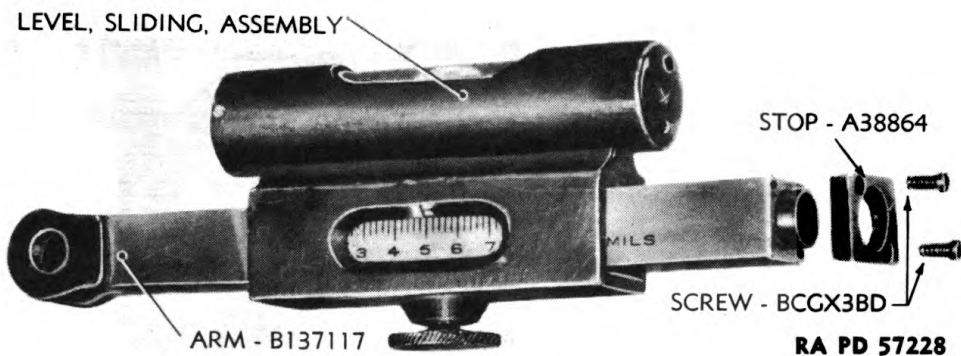

Figure 16—Gunner's Quadrant M1918—Sliding Level Stop Removed
c. Remove Sliding Level Assembly (figs. 16 and 17).
(1) Remove two screws securing sliding level stop to arm, and lift off stop.
(2) Loosen sliding level assembly by turning back on level clamping screw thumb knob, and remove sliding level assembly from arm.
(3) Lift level spring assembly out of sliding level guide.
- (1) From inside of level guide, insert level clamping screw.
- (2) Place clamping screw knob over end of clamping screw so that screw end extends through hole and out of the flat surface of the knob.
- (3) Place the assembly on a solid support, and rivet clamping screw end to clamping screw knob.
c. Install Sliding Level Assembly (figs. 16 and 17).
- (1) Turn knob until level clamping screw is backed down.